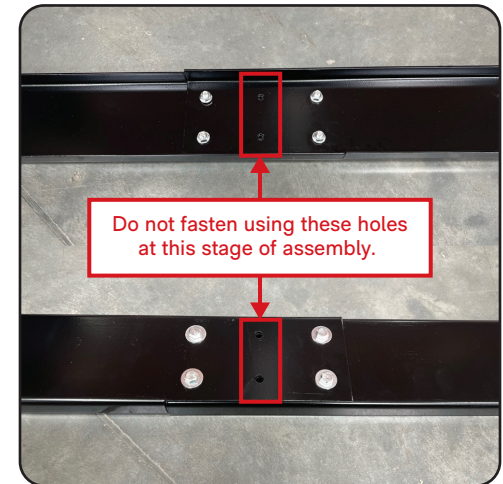

fig 1.1
2. Using the 10mm socket and wrench plus 4 bolts, 4 washers and 4 nuts, fasten the two riveted side rails together using the outer holes only, as shown. Place the washer on the bolt before inserting it into the hole on the side rail. (fig 1.1). **NOTE:** The center holes will be used to attach the center support later in the assembly process.